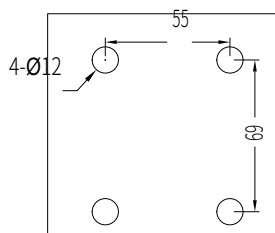

Figure 1
The wiring is in accordance with figure 1, the lamp is equipped with 5-15P(AC 125V) plug, it needs to be matched with 5-15R receptacle.
1. Use a chalk or sharp tool to mark signs on the top of the ceiling, then drill holes on the signs by electric drill (Figure 1).